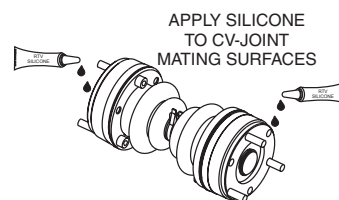

Figure 15. Applying RTV Silicone
- Apply a thin coat of RTV silicone (Figure 15) to mating surfaces of CV axle assembly.